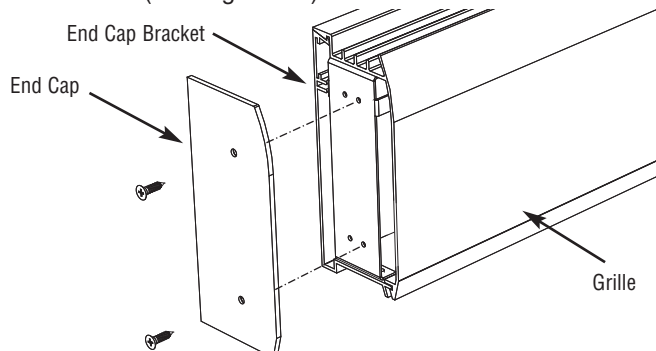

Figure 1b - End Cap to Bracket (Slim Line Shown)
1. Position the end cap on the end of heater. Install two No. 6 flat head screws (supplied) to secure the end cap to the front cover. (See Figure 1b.)